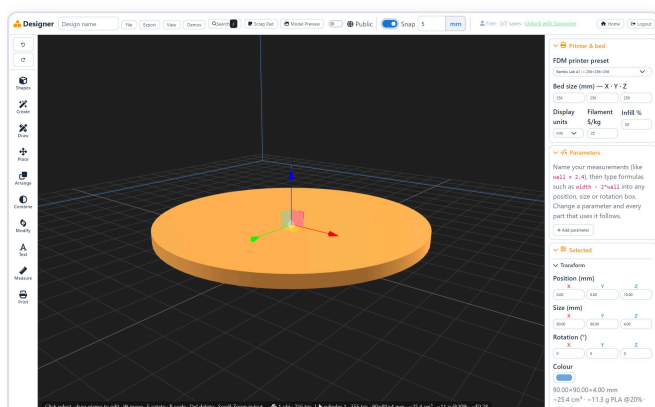

Figure 5.3 90 × 90 × 4 mm, but floating.
- 3 **Size it.** In **Selected** > **Size (mm)**, type **90** in X, **90** in Y and **4** in Z, pressing **Enter** after each one. Your coaster is now floating in mid-air (Figure 5.3), because its centre stayed 10 mm up.